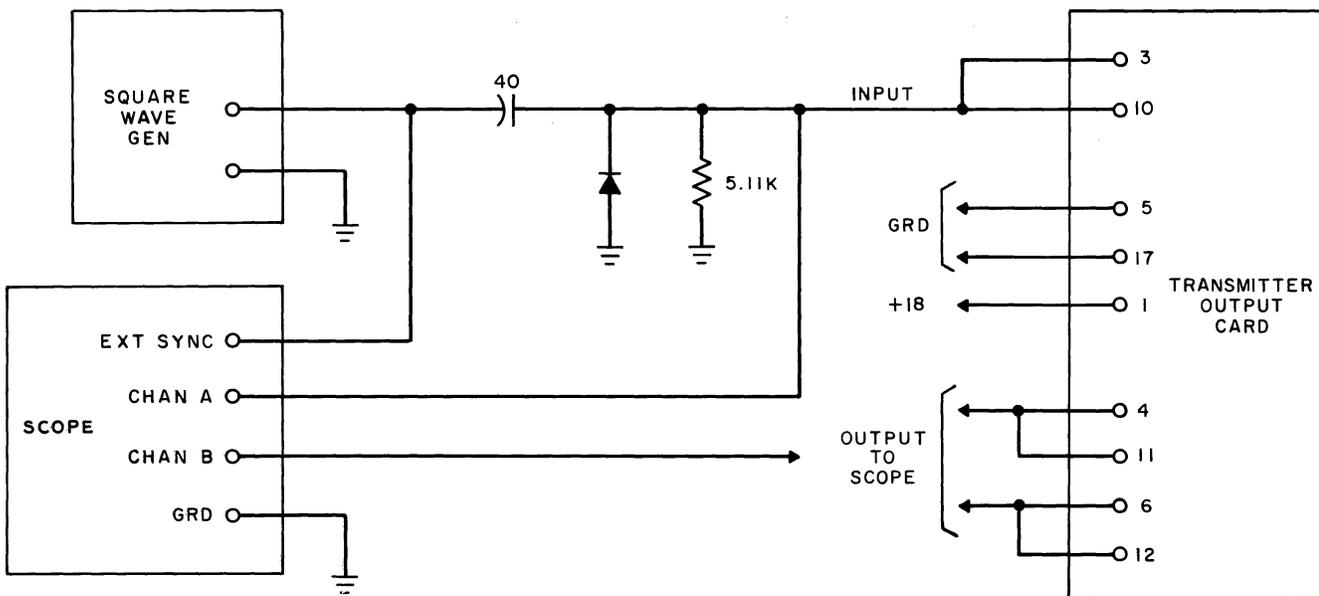

Fig. 26 - (Transmitter Output Test)
(1) Connect ground to terminals 5 and 17 and +18.0 ±0.5 volts to terminal 1.
(2) Connect the card as in the suggested test circuit shown in Fig. 26 using the output of the square-wave generator. Set the symmetry control to the center position.